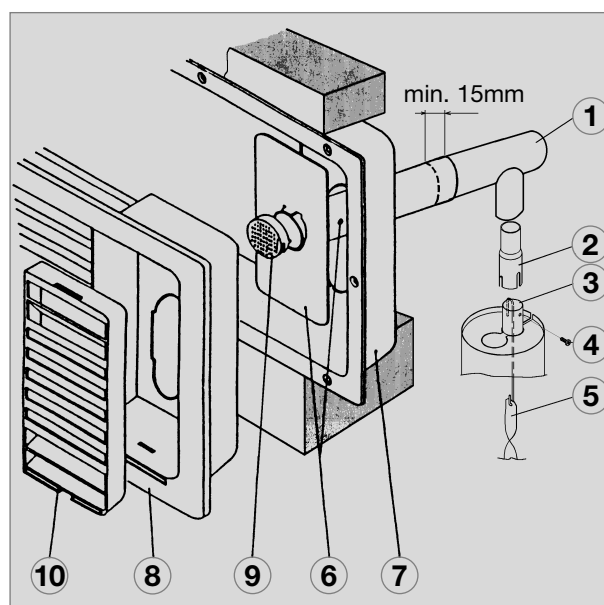

Fig. 25
The exhaust gas duct system must be made in such a manner as to achieve a complete extraction of combustion products to the outside of living space. The duct system must slope in an upward direction in order to avoid a build-up of condensate. The type of exhaust gas duct shown in Fig. 25 allows the installation of the winter cover next to (10) (Fig. 25).